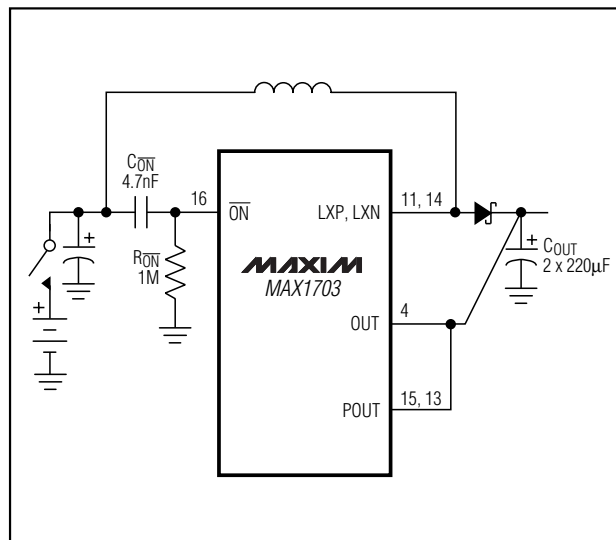

Figure 7. Connecting  $C_{\overline{ON}}$  and  $R_{\overline{ON}}$  when Switch or Battery-Contact Bounce is Anticipated
- 1) Connect a capacitor ( $C_{\overline{ON}}$ ) from  $\overline{ON}$  to  $V_{IN}$  and a 1M $\Omega$  resistor ( $R_{\overline{ON}}$ ) from  $\overline{ON}$  to GND, as shown in Figure 7. This resistor-capacitor network differentiates fast input edges at  $V_{IN}$  and momentarily holds the IC off until  $V_{IN}$  settles. The appropriate value of  $C_{\overline{ON}}$  is  $10^{-5}$  times the total output filter capacitance ( $C_{OUT}$ ), so a  $C_{OUT}$  of 440 $\mu$ F results in  $C_{\overline{ON}} = 4.7nF$ .